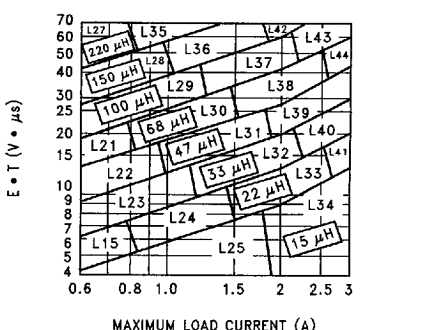

FIGURE 8. LM2596-ADJ
B. Use the  $E \cdot T$  value from the previous formula and match it with the  $E \cdot T$  number on the vertical axis of the Inductor Value Selection Guide shown in Figure 8.
D. From the inductor value selection guide shown in Figure 8, the inductance region intersected by the 34 ( $V \cdot \mu s$ ) horizontal line and the 3A vertical line is 47 μH, and the inductor code is L39.